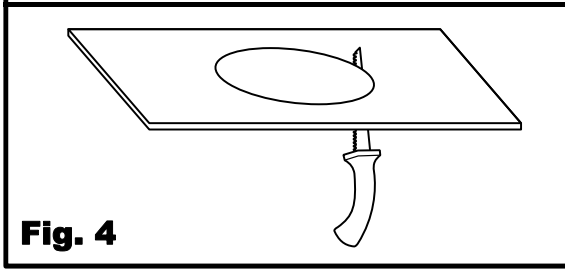

Fig. 4
4. Mark the opening for the hole of the frame on the ceiling. Use a keyhole saw to cut the hole out. [Fig. 4]